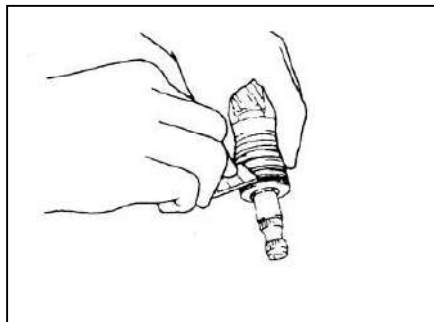

Fig 17-25
3) **SEAL RING REMOVAL**(See fig 17-25)